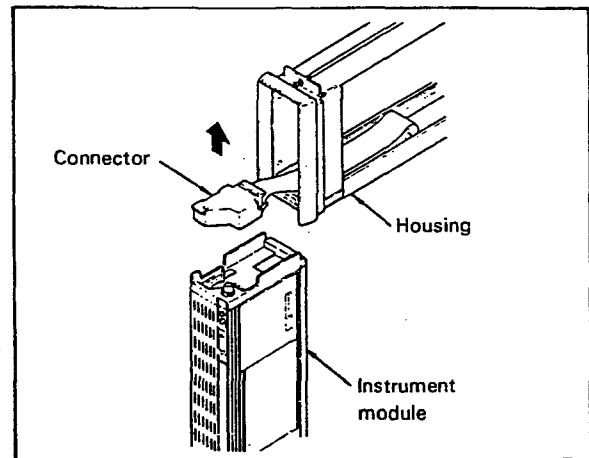

Figure 5-4. Connection between Internal Instrument and Housing.
- (4) Check that the housing connector is securely connected to the housing and internal instrument. (See Figure 5-4.)